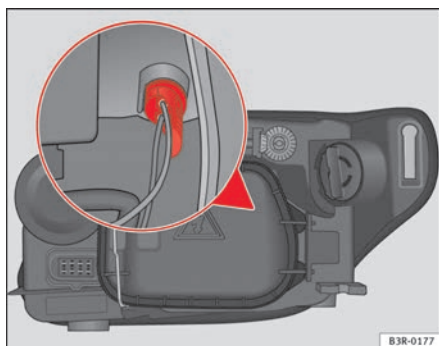

Fig. 206 Side light
- Remove the bulb holder by pulling on the grip ⇒ fig. 206 (it can also be removed by pulling on the bulb holder wires).